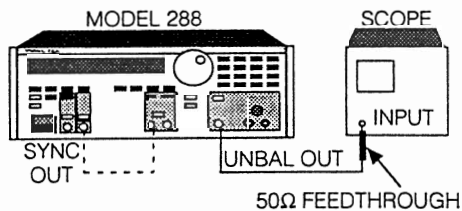

Figure 5-5. Adjust AM Setup
1. Connect the test equipment as shown in figure 5-5.